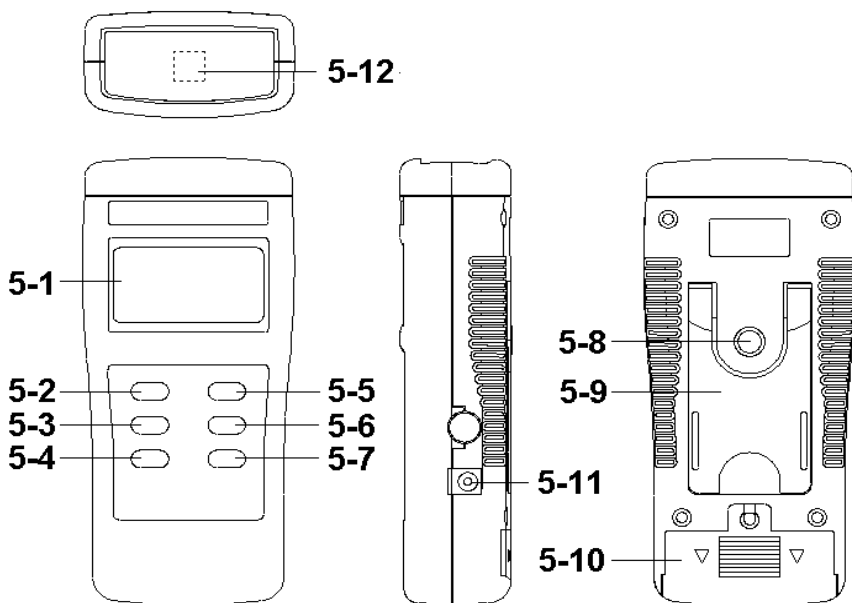

Fig. 1
(5-2, Fig. 1) once.
(5-5, Fig. 1)
(5-6, Fig. 1)
The upper Display (5-1, Fig. 1) will present the EMF measurement value.
- * *EMF Sensor Position is in the area of " 5-13 , Fig. 1 " .*
During the measurement, press the " Hold Button " (5-4, Fig. 1) once will hold the measured value & the LCD will display a " HOLD " symbol.
- * The data record function records the maximum and minimum readings. Press the " REC Button " (5-3, Fig. 1) once to start the Data Record function and there will be a " REC " symbol on the display.
- a) Press the " REC Button " (5-3, Fig. 1) once, the " REC MAX " symbol along with the maximum value will appear on the display.
If intend to delete the maximum value, just press the " Hold button " (5-4, Fig. 1) once, the display will show the " REC " symbol only & execute the memory function continuously.
- b) Press the " REC button " (5-3, Fig. 1) again, the " REC. MIN. " symbol along with the minimum value will appear on the display.
If intend to delete the minimum value, just press the " Hold button " (5-4, Fig. 1) once, then the display will show the " REC " symbol only & execute the memory function continuously.
During the measurement, the LCD backlight will On. If press the " Backlight Button " (5-7, Fig. 1) once, the LCD backlight will be switched to Off.
To de-activate this feature, Select the memory record function during measurement by pressing the " REC Button " (5-3, Fig. 1).
- 2) Slide the " Battery Cover " (5-10, Fig. 1) away from the instrument and remove the battery.